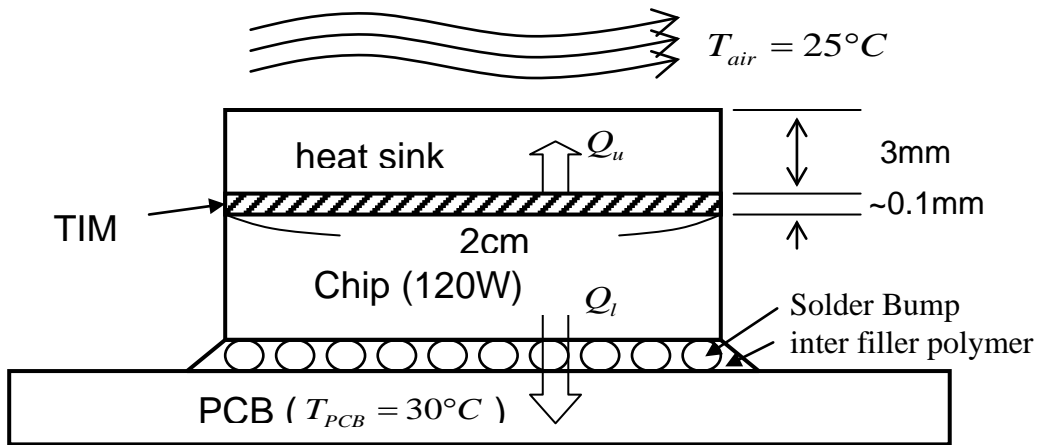

Fig. 1 Vertically integrated chip, TIM, heat sink, and solder bumps, etc.
1. A chip of 120 W is connected to a series of components vertically, see Fig. 1. The upper components are thermal interface material (TIM), heat sink and convective air (its temperature, $T_{air} = 25^\circ\text{C}$). The lower components are solder bumps (its total number is 10 units) surrounded by interface filler polymer (ifp), then to the bottom printed circuit board (PCB) whose temperature is set equal to $T_{PCB} = 30^\circ\text{C}$. Assume that the area of each component, i.e. chip, TIM, heat sink, is $2\text{ cm} \times 2\text{ cm}$, i.e., $A = 4\text{ cm}^2$. Answer to the following questions.
- (8) If the coolant (air in Fig. 1) is replaced by water coolant with its heat transfer coefficient, $h=10,000 \text{ W/(m}^2 \text{ K)}$, then , calculate R_{air} , R_{upper} , and T_{chip} provide all other components' properties being the same.